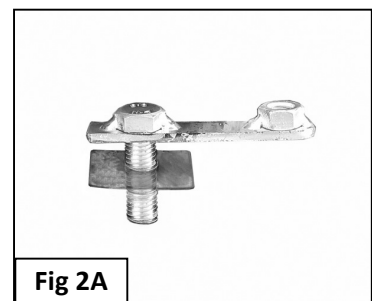

Fig 2A
2. Starting at the driver side-front of the vehicle, remove the sealing tape covering the factory holes on the side of the inner panel, **(Figure 1A, 1B, 1C)**. Partially thread (1) 12mm Plastic Retainer onto the threaded end of (1) 12mm Bolt and Nut Plate, **(Figure 2A)**. Insert the Bolt and Nut Plate into the factory oval hole. Continue to thread the Plastic Retainer down the Bolt and Nut Plate until it is flush against the sheet metal, **(Figure 2B)**.